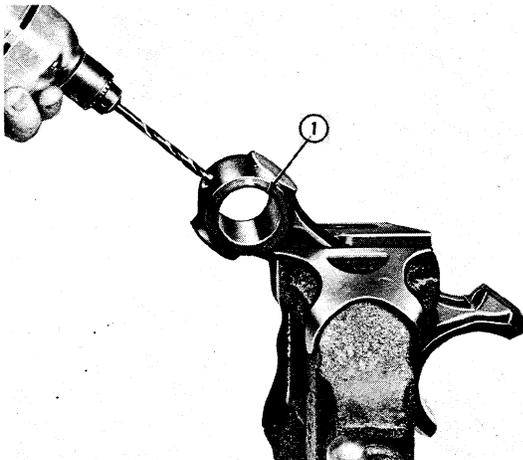

Figure 36
6. **Naturally aspirated engine only:** After installation of a new bushing, use the hole in the top of the connecting rod as a guide and drill a 0.25 in. (6.4 mm) diameter hole through one wall of the bushing, Figure 36.